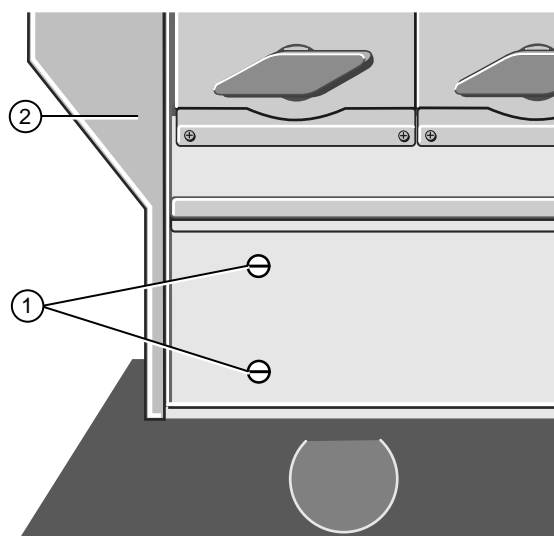

Figure 10-5 Power Supply Floating Fasteners
5. Now tighten the four floating fasteners, two on each side, located towards the front of the machine as shown in *Figure 10-5*.